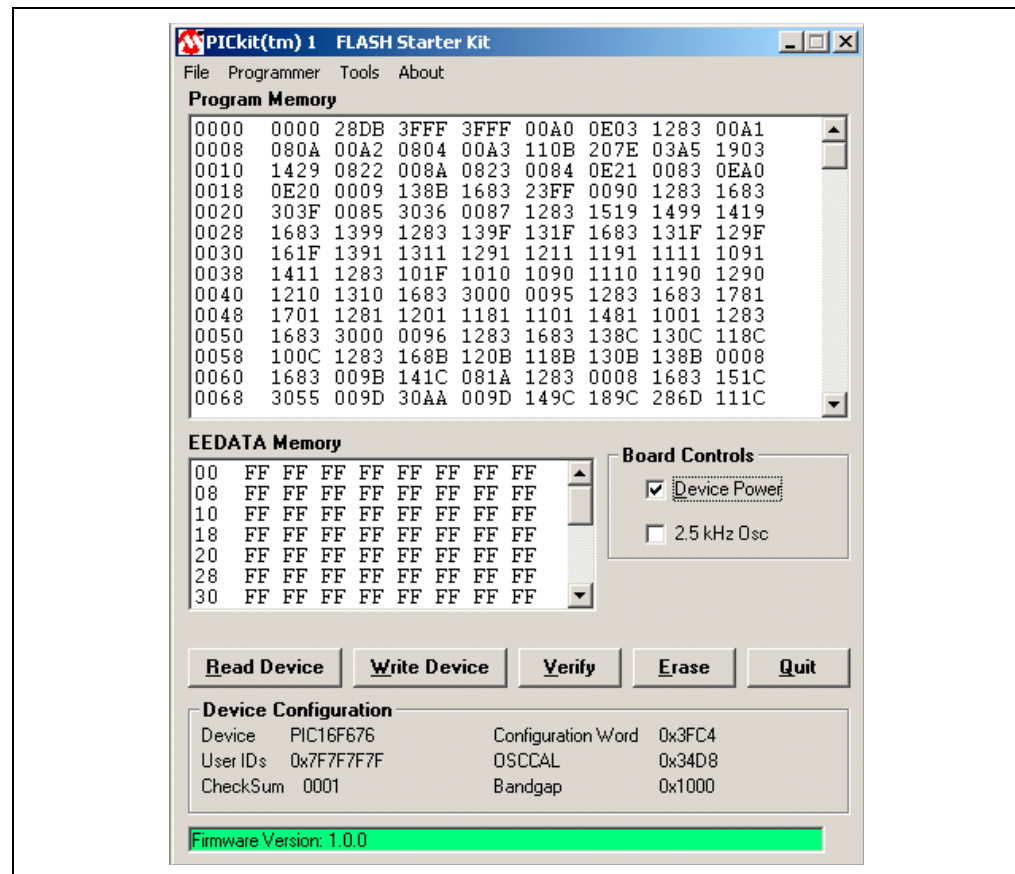

FIGURE 2-4: PICkit™ 1 Flash Starter Kit GUI Window on the PC.
3. Once the PICkit 1 Flash Starter Kit is started, the main window will be displayed on the PC, as indicated in Figure 2-4.
4. Toggle device power to off by unchecking the **Device Power** box under **Board Controls** in the PICkit 1 Flash Starter Kit window (Figure 2-4). The **BUSY** LED on the PICkit 1 Flash Starter Kit board will turn off once the device power is turned off.